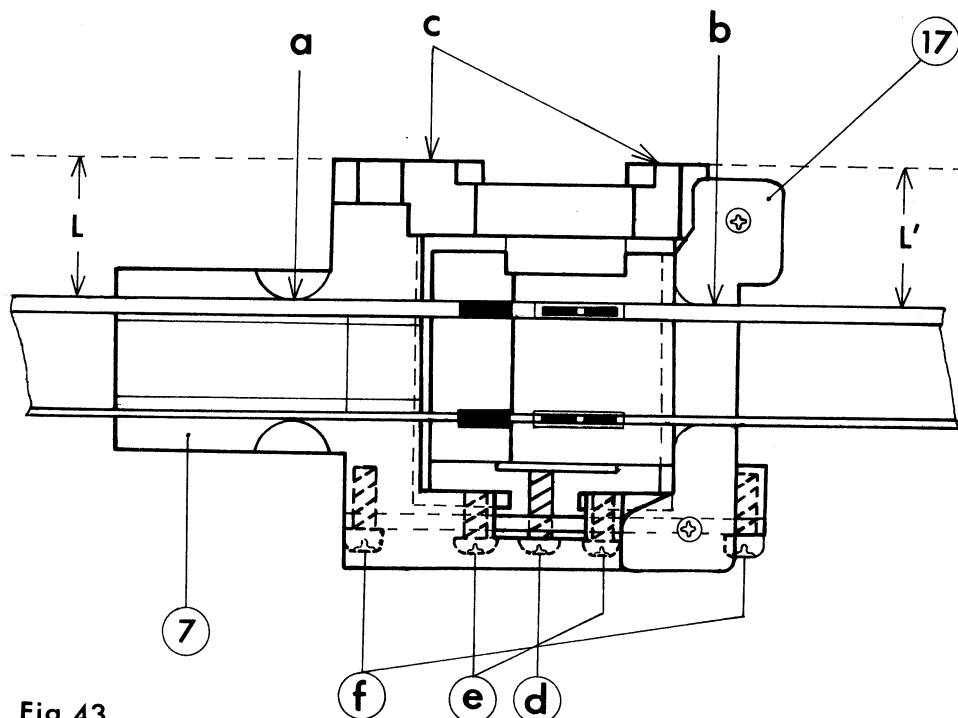

Fig 43
3. Attach (17) to (7). (Refer to Fig.43)
Put a film on the Head Holder Assembly as shown in Fig.43. Adjust the position of head by screws (d)(e)(f), aligning the two head gaps with the magnetic stripes (Track 1 & 2). And tighten (e)(f).